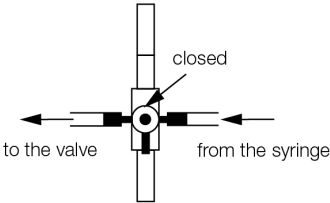

Fig. 8: Calibrating the test set-up (1)
- To remove all air from the complete, sterile test equipment, turn the three-way faucet, see fig. 8.
- Rotate the three-way faucet, see fig. 8, in order to isolate the pressure gauge.